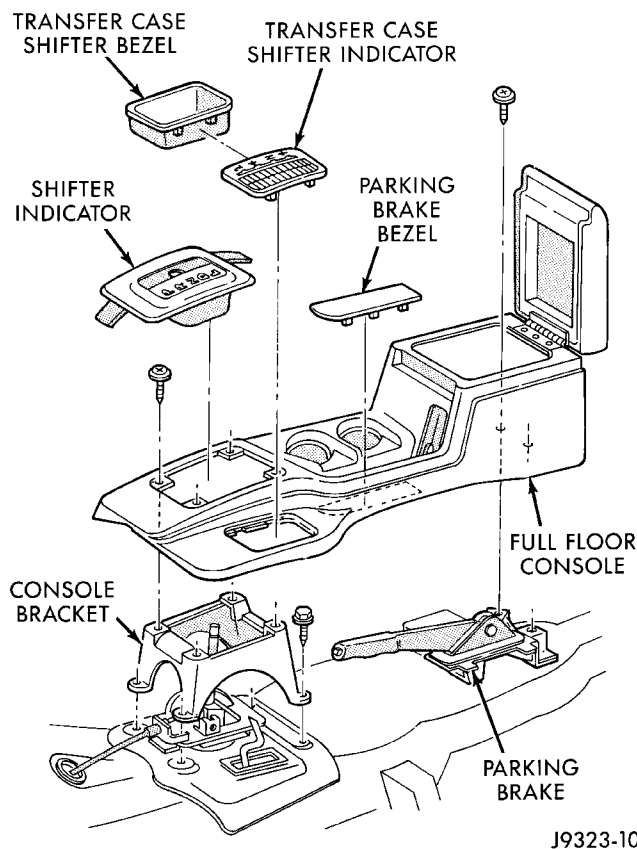

Fig. 50 Console Components
- (1) With the engine off, position the transmission shift lever in first gear.
- (2) Grasp transmission shift lever handle and firmly pull straight up.
- (3) Separate transmission shift lever handle from shift lever.
- (4) Remove transmission and transfer case shift indicator bezels by prying upward to release them. Position flat screwdriver between bezel and console to remove indicator bezel.
- (5) Disconnect lamp sockets from bezels.
- (6) Remove screws attaching console to the console bracket (Fig. 50).
- (7) Remove console from floor.
- (1) Position console in the vehicle.
- (2) Install screws attaching console to console bracket.
- (3) Connect lamp sockets in bezels.
- (4) Install transmission and transfer case shift indicator bezels (Fig. 50).
- (5) Position transmission shift lever handle on shift lever and press firmly downward to lock into place.